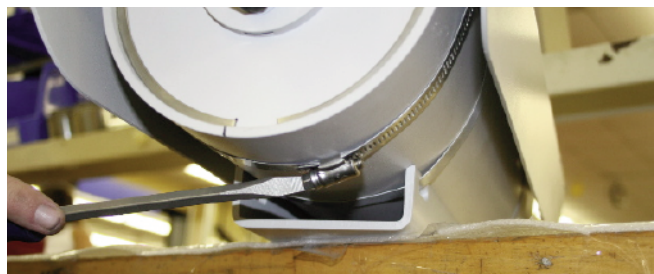

FIGURE 2 Removing the Sunshield
1. Using a flat blade screwdriver, remove the sunshield from the housing by loosening the hose clamps on each strap and gently lifting the sunshield off the housing tube. Be careful not to scratch the housing with the straps. Set sunshield aside. See **Figure 2**.